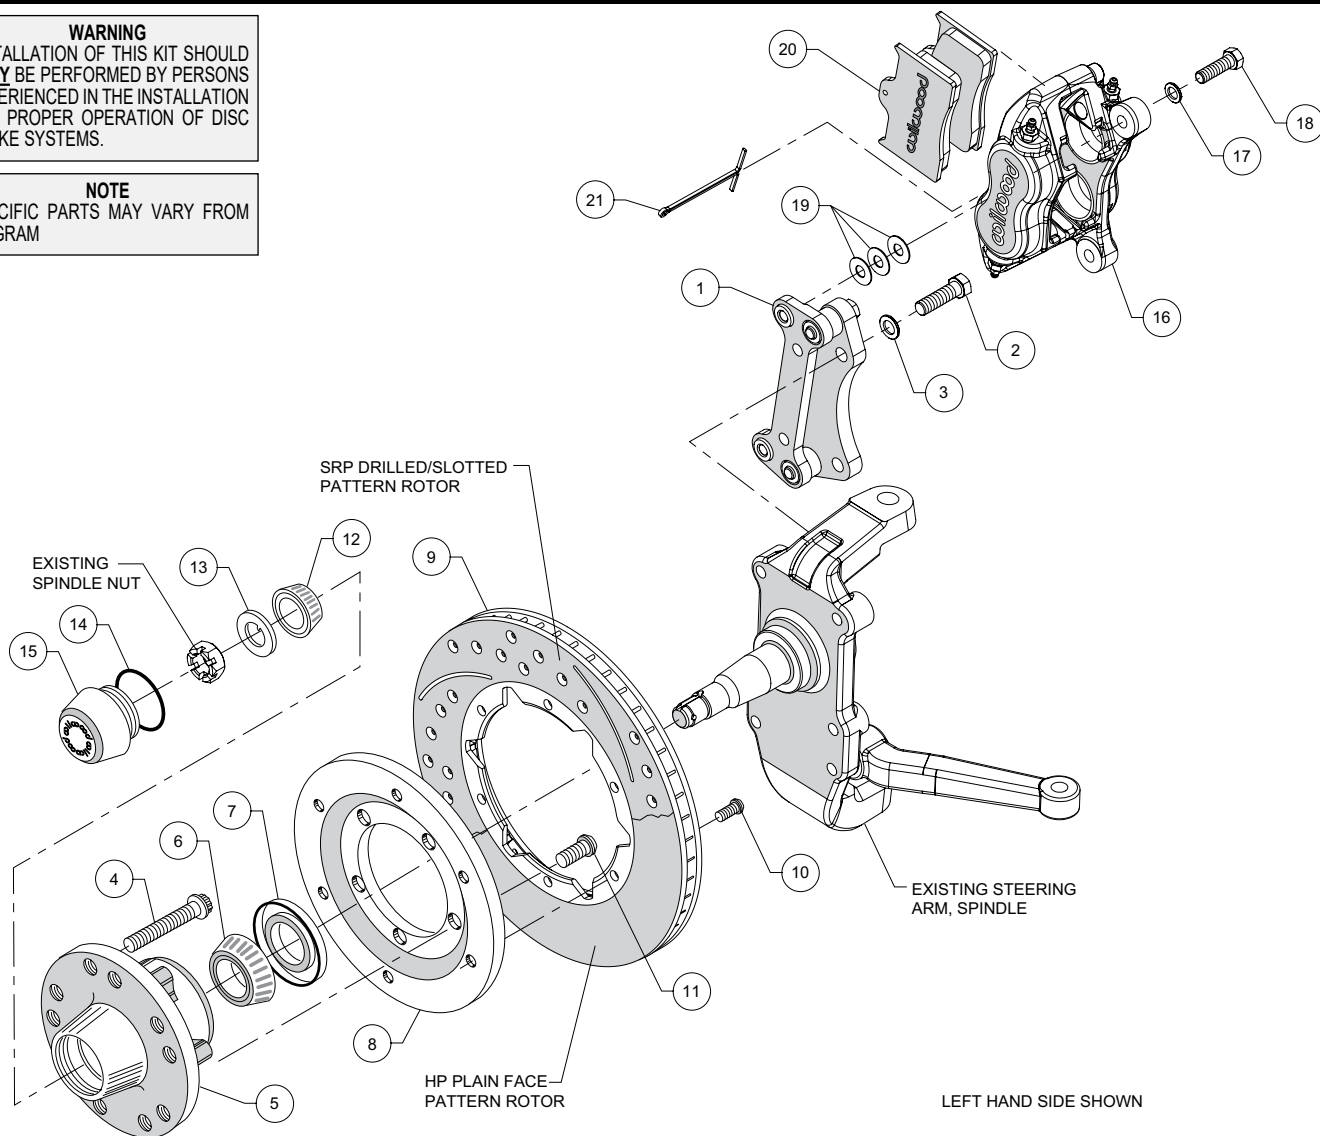
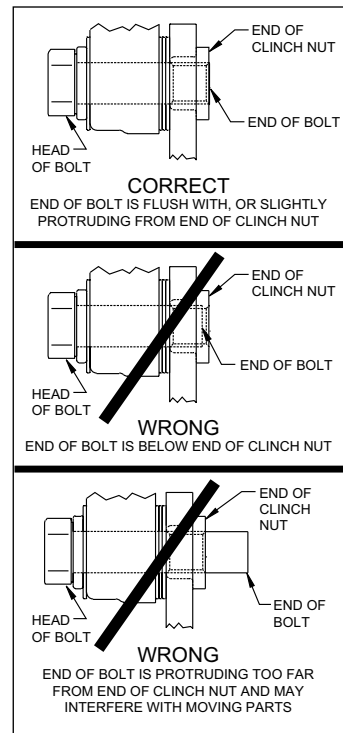

Figure 1. Typical Installation Configuration
Figure 3. Clinch Nut Engagement Diagram
•**NOTE:** Numbers in parenthesis refer to the parts list on the preceding page and Figure 1.
•Align caliper mounting bracket (1) with the corresponding holes, on the backside of the spindle and attach using bolts (2) and washers (3), as shown in Figure 1 and Photo 1. Temporarily tighten the mounting bolts. Ensure that the flanged heads of the clinch nuts in the bracket are facing outboard, Photo 1. **NOTE:** The bracket must fit squarely against the mounting points on the spindle. Inspect for interference from casting irregularities, machining ridges, burrs, etc. Remove bolts one at a time, apply red *Loctite*® 271 to threads, and torque to 55 ft-lb.
•Install wheel studs (4) into the hub (5), Photo 2. Torque to 77 ft-lb. **NOTE:** There are two five lug patterns in the hub (5 x 4.50 and 5 x 4.75). Ensure the correct hub stud pattern is being used to fit the wheel application.
•Pack the large inner bearing cone (6) with high temperature disc brake bearing grease (available from your local auto parts store) and install into the backside of the hub (5), Photo 3.
•Install the grease seal (7) by pressing into the backside of the hub (5), flush with the end of the hub, Photo 3.
- Orient the rotor (9) and the rotor adapter (8) as shown in Figure 1 and Photo 4. Attach the rotor to the adapter using bolts (10). Using an alternating sequence, apply red *Loctite*® 271 to the threads, and torque to 25 ft-lb.
- Mount the adapter/rotor assembly (8/9) to the hub (5) using bolts (11), as shown in Figure 1 and Photo 5. Using an alternating sequence, apply red *Loctite*® 271 to the threads, and torque to 45 ft-lb.
- Pack the small outer bearing cone (12) with high temperature disc brake bearing grease and install into hub (5). Slide the hub/rotor assembly onto the spindle. Secure using spindle washer (13) and OEM spindle nut, Photo 6. Adjust bearings per OEM specifications. Install saved OEM nut lock (if any) and a new cotter pin (not included).
- Screw dust cap (15) into hub (5), Photo 7. Friction created by the o-ring (14) on the dust cap keeps it from unscrewing. **NOTE:** The O.D. of the existing OEM spindle washer may be larger than the I.D. of the dust cap not allowing it to seat against the hub face. Therefore, use the spindle washer (13) supplied with the kit instead of the OEM washer.
- NOTE:** Please reference the caution statement at the beginning of the assembly instructions. Mount the caliper (16) onto the caliper mounting bracket (1) using bolts (18) and washers (17), as shown in Figure 1. Initially place three .035" thick shims (19) on each bolt between the caliper and the bracket, Photo 8. Temporarily tighten the mounting bolts and view the rotor (9) through the top opening of the caliper. The rotor should be centered in the caliper, Photo 9. If not, adjust by adding or subtracting shims between the bracket and the caliper. Always use the same amount of shims on each of the two mounting bolts. **NOTE:** The end of each bolt must be flush with or slightly protruding from the head of the clinch nut, as shown in Figure 3. If necessary place spare shims between washer (17) and caliper mounting ear to achieve the proper clinch nut engagement. Once the caliper alignment and clinch nut engagement are correct, remove the bolts one at a time, apply red *Loctite*® 271 to bolt threads, and torque to 40 ft-lb.